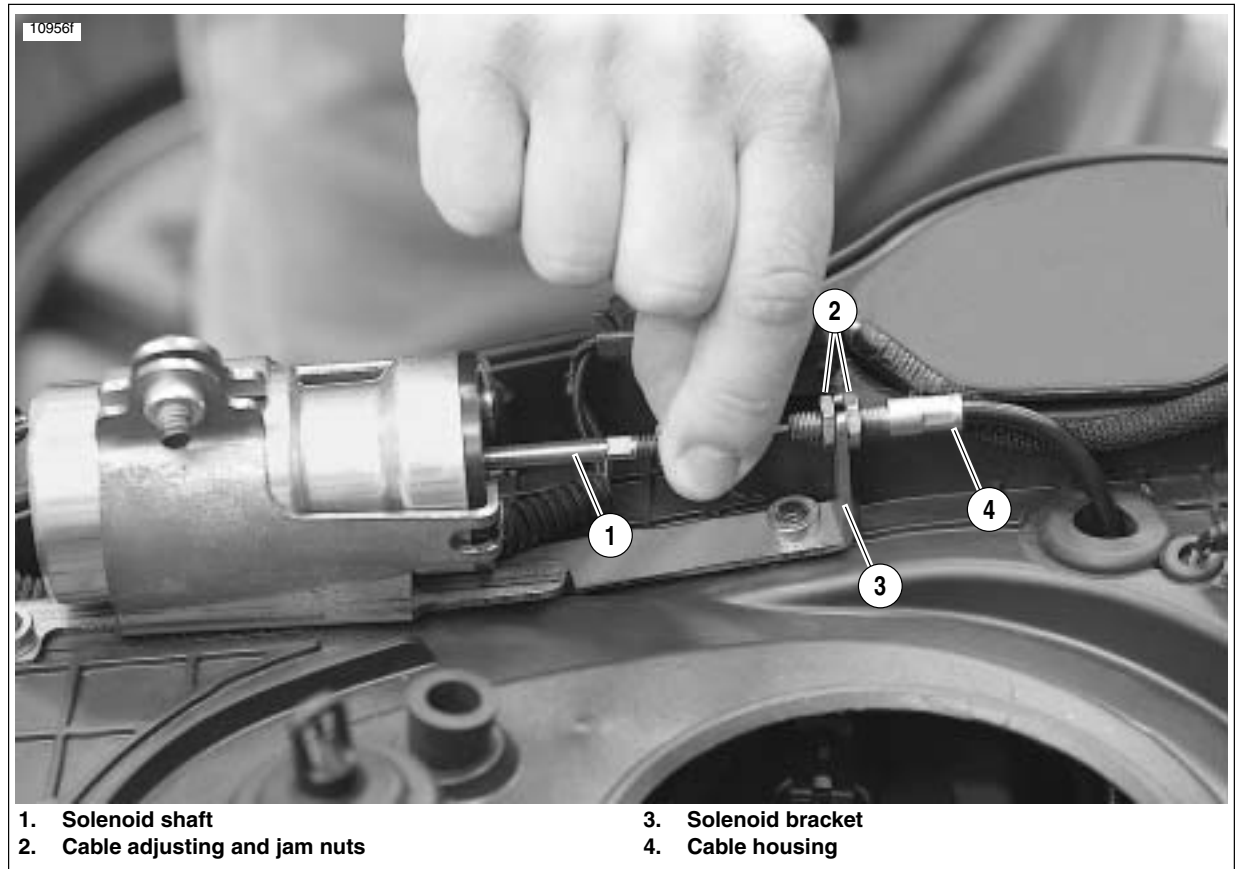

Figure E-2. Checking for Freeplay in the Solenoid Shaft in the Fully Extended Position
3. See Figure E-2. Inspect for proper extension freeplay in solenoid shaft:
- b. Pull solenoid shaft (1) outward to the fully extended position.
- c. If you have no travel in the shaft, loosen jam nuts (2) and adjust cable housing (4) towards the solenoid bracket (3) until freeplay is achieved.